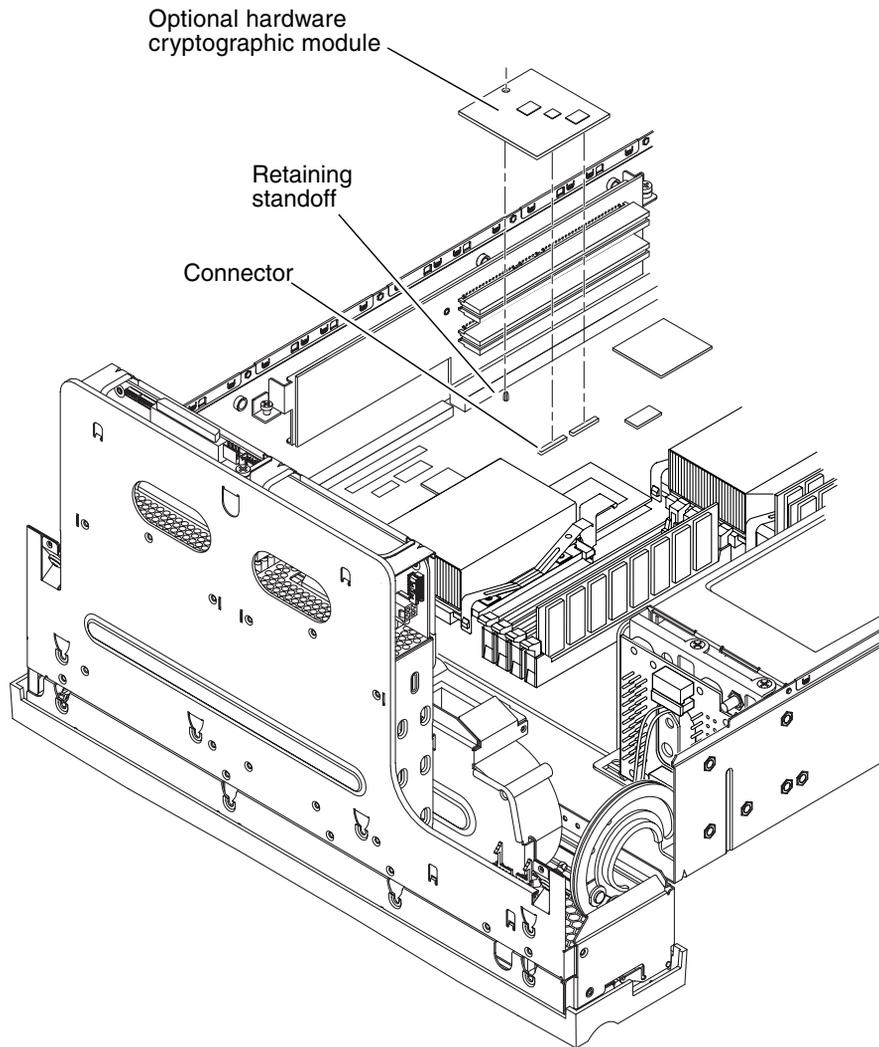

FIGURE 5-10 Removing and Installing the Hardware Cryptographic Module
6. Locate the retaining standoff that secures the hardware cryptographic module onto the system board (FIGURE 5-10).
8. Lift the hardware cryptographic module away from the chassis (FIGURE 5-10).
2. Insert the hardware cryptographic module onto the retaining standoff and connector on the system board (FIGURE 5-10).